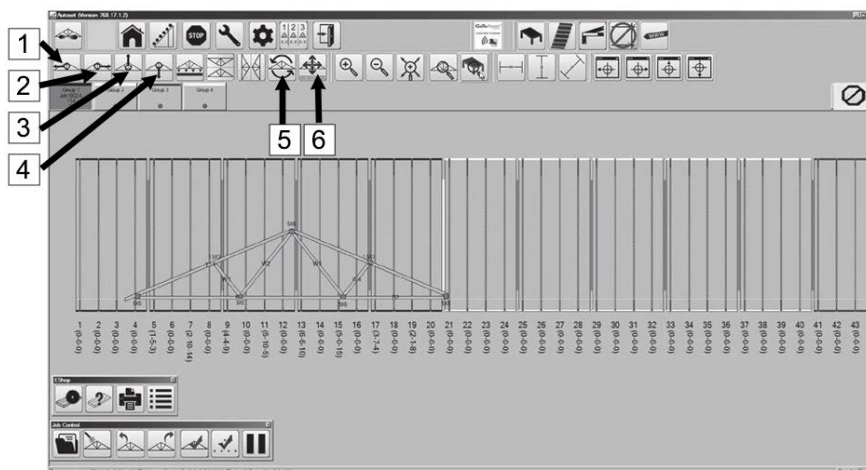

FIGURE 28
Once a truss is selected from the Select Truss screen, the software will advance to the Truss Setup Screen (Main screen with truss loaded) (Figure 28).
1. Click Rotate Truss icon form the Truss Setup Screen (Figure 28)